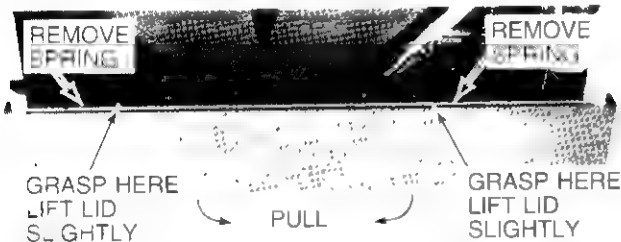

Fig. 9—Door Push Rod Spring
- 1 With cabinet top removed and player in "LOAD" mode—remove AC cord from power source. Use needle nose pliers and carefully remove door push rod spring from front receiver pad (left and right sides) Fig. 9.